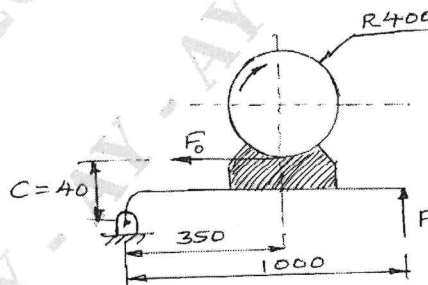

Fig.Q6(b)
- b. The block type hand brake shown in Fig.Q6(b) has a 400 mm brake drum. It can sustain 200 N-m torque at 500 rpm. Coefficient of friction is 0.25. Determine